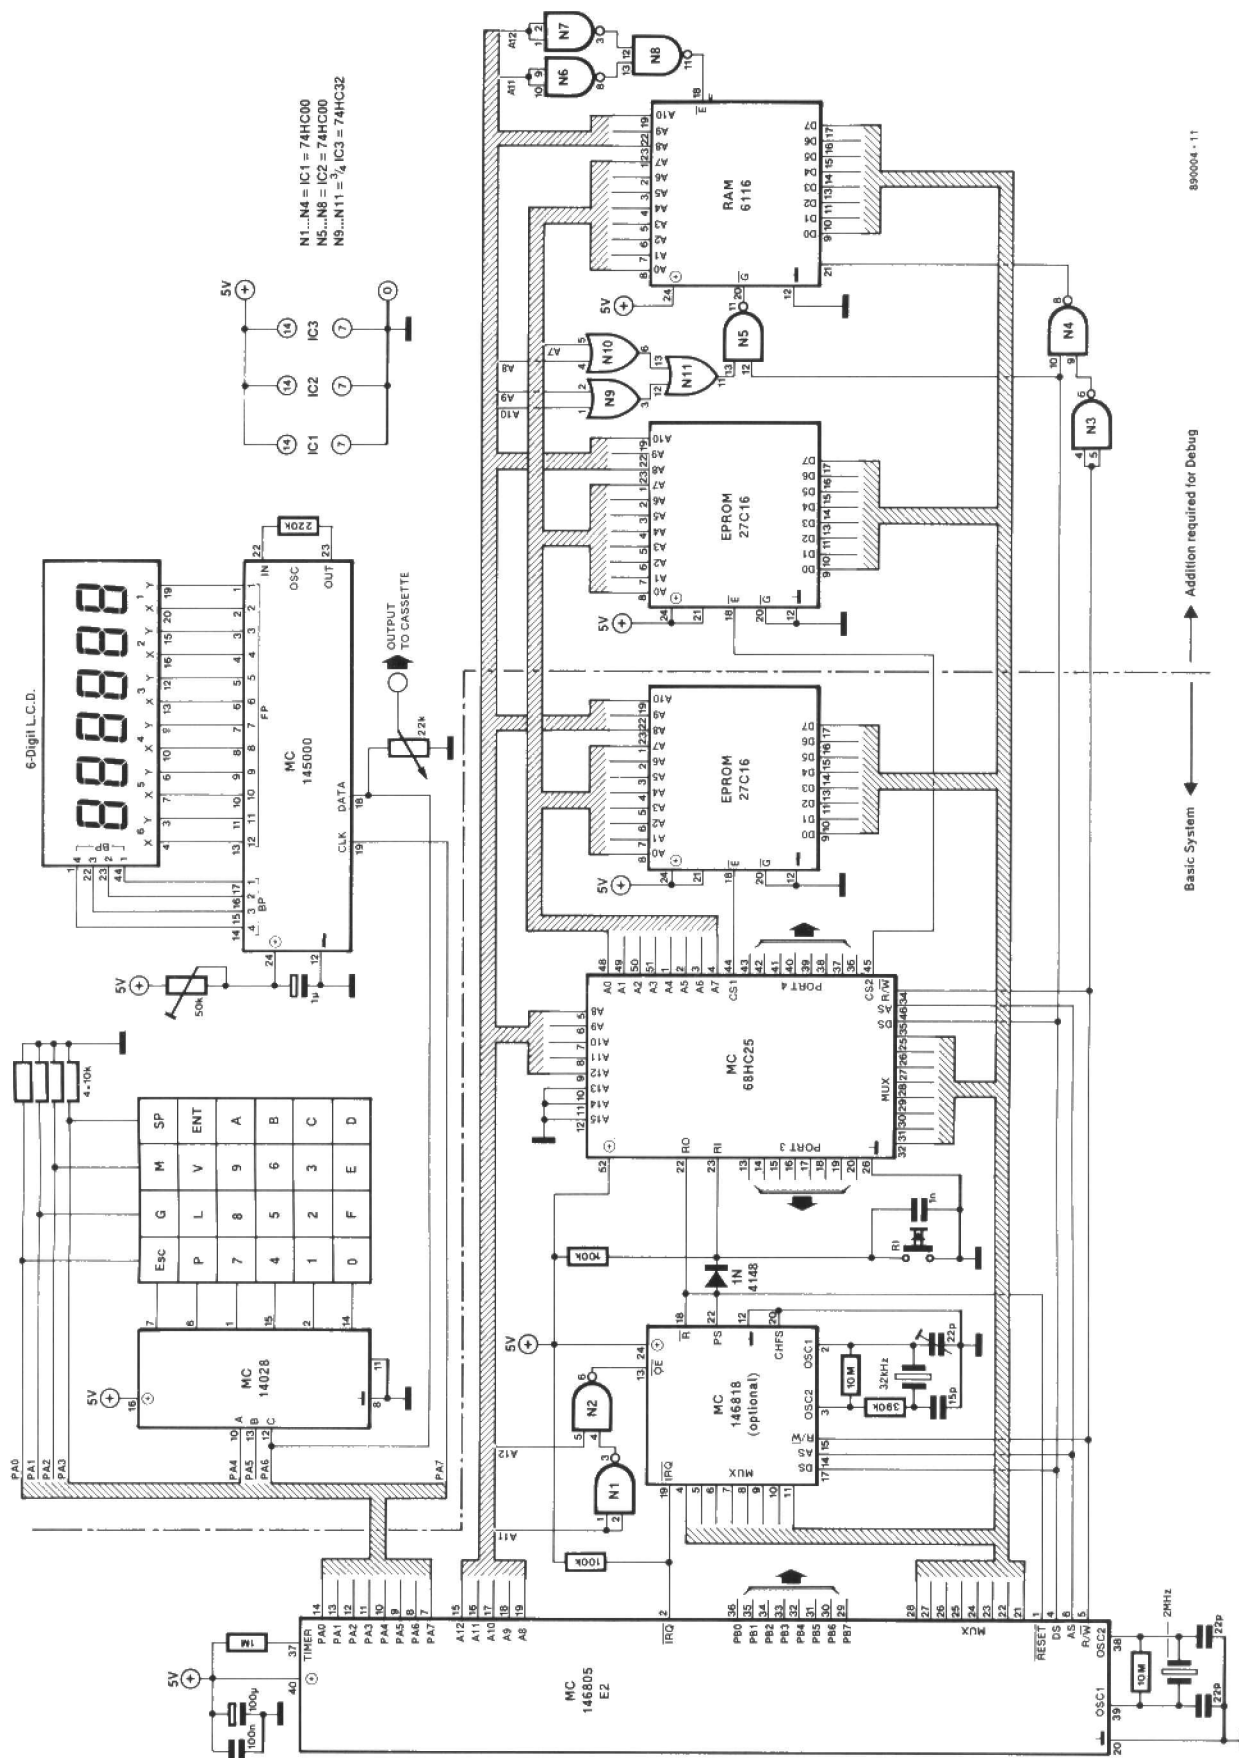

Fig. 1. Circuit diagram of the MC146805E2-based M6805 development system. The parts outside the dashed lines are required for DEBUG5.
The circuit diagram of the development system is given in Fig. 1. The 6116 2 Kbyte RAM is placed between \$0000 and \$07FF. This means that the 128 bytes from \$0000 to \$007F are not used, as they are mapped over the
The DBUG05 monitor includes routines to transfer 6805 code to and from a cassette tape. When the PUNCH (P) key is used to record a program, the output is taken from PA6 as shown in Fig. 1. When the L key is used to load a previously saved program, the output from the cassette should be applied to the interrupt pin of the MC146805E2. This signal should be between 2 and 5 Vpp, and be AC-coupled to the microprocessor. When this is being done, it is advisable to disconnect all other components from the IRQ pin.